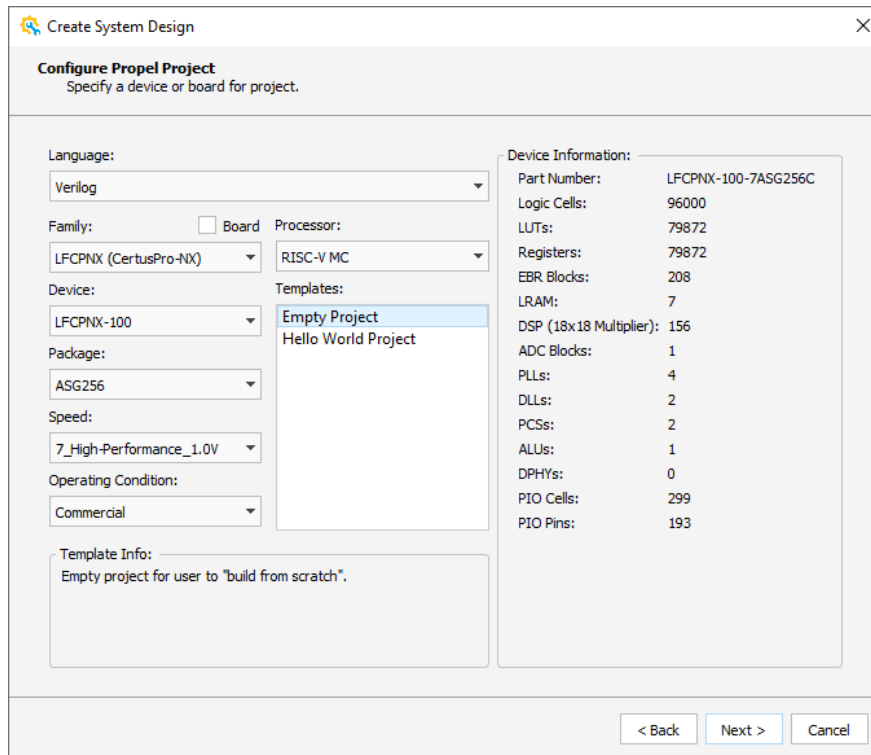

Figure 2.4. Specify a Device for a New SoC Project
- To specify a device for your new SoC project, use the drop-down menu to select desired device information (Family, Device, Package and Speed), and select **Empty Project** in the **Templates** field (Figure 2.4).